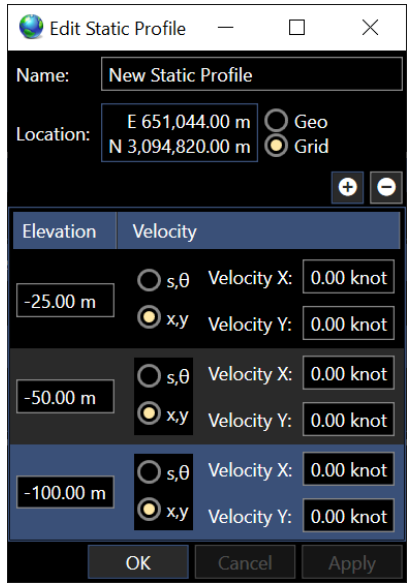

FIGURE 18-25 EDIT STATIC PROFILE
3. To configure the Static profile, click the Edit Profile Settings button . This opens the Edit Static Profile Dialog, see Figure 18-25.